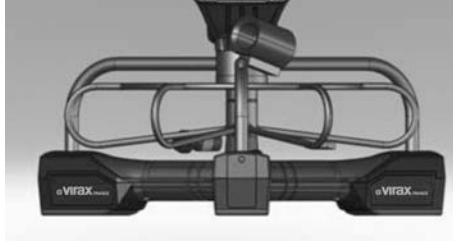

Figure 1 – 16 m cable for Mini VISIOVAL
1. Check that the battery compartment lid is free from debris and liquid. Use a Phillips head screwdriver to remove the screw of the battery compartment lid (Figure 1)